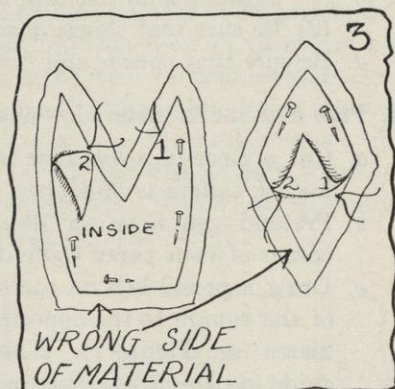

FIG. 3.
- (1) Wherever the 1 is, put a white tie tack directly below the number (see Figure 3).
- (2) Wherever the 2 is, put a tie tack with another color thread directly below the number (see Figure 3).
- (3) Wherever 3, 4, 5, etc., may be, put a tie tack, using a different colored thread for each number. Always use the same color of thread for the same number each time that that number is used.
- (4) Tie all stitches twice so that they will not come out.